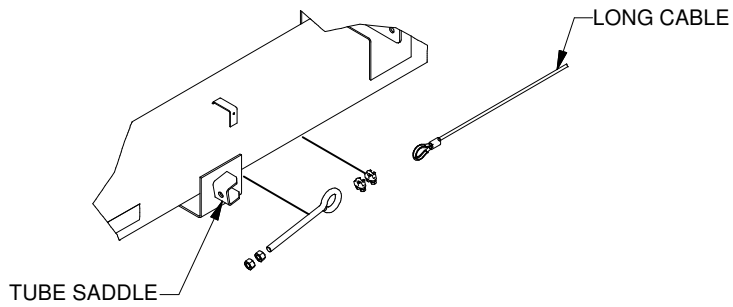

FIGURE 02
14. In **(FIGURE 02)** partially thread one of the nuts to the eyebolt while attaching eyebolt to **TUBE SADDLE**.
15. Thread **LONG CABLE** through eyebolt and pull tight, and attach two 1/4" cable clamps as shown in **(FIGURE 02)**.